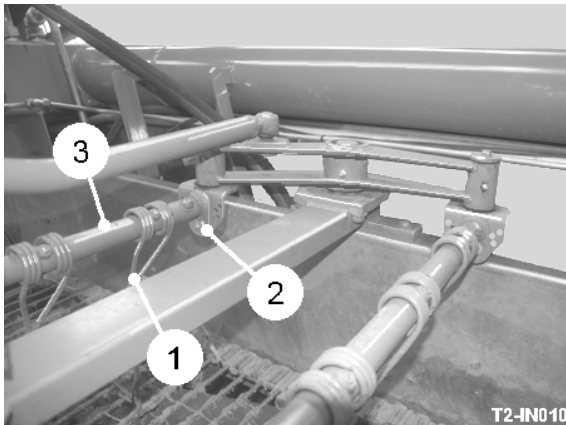

Fig 11
To set the height of the fingers (item 1, fig 11) above the web, remove the clamp bolts (item 2, fig 11) and rotate the mounting bar (item 3, fig 11) until the fingers are at the required height. It is not always necessary to set both rows of clod fingers completely down, it is often better to have the second row lower than the first. In heavy green top or rubbish, the clod fingers may cause material to ball up and overload the haulm roller. If this occurs, the fingers should be lifted out of work.